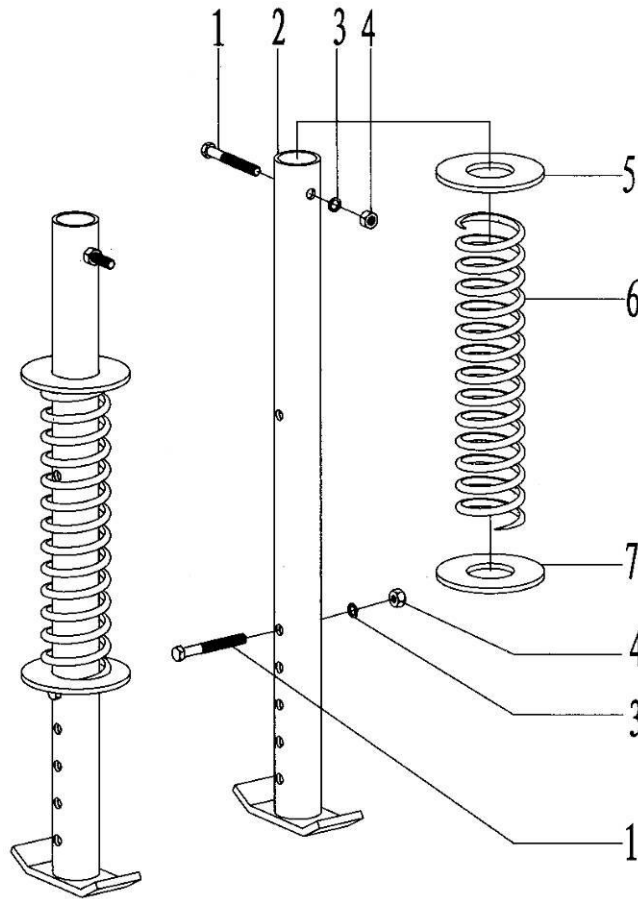

Fig 29
7.29 Fore guide pole assembly (Fig 29, Table 29)